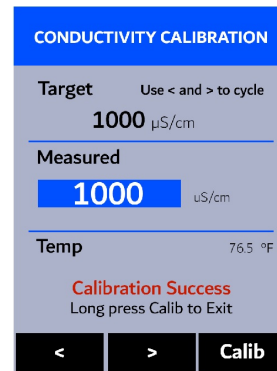

Figure 24.
10. The message “**Calibration Success**” will appear towards the bottom of the display (Figure 24).
11. Calibration is now complete, long press **Calib (OK)** to return to Conductivity mode.